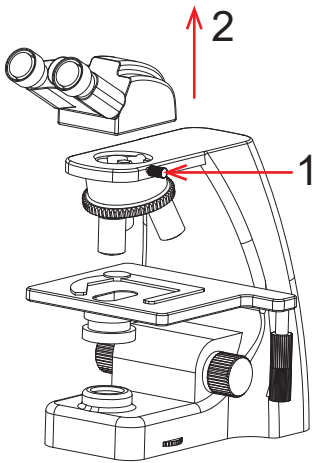

Figure 5
(1) Separate the objective end of the binocular microscope from the eyepiece end, as shown in Figure 5: